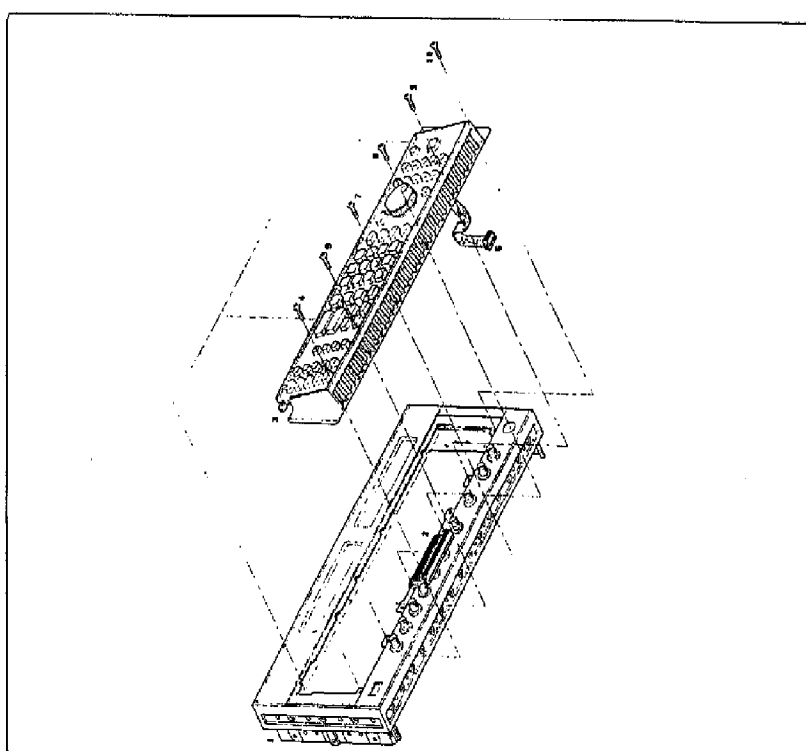

Figure 8-31. Front Panel Bezel Removal
- a. The front panel bezel can be removed using the following procedure in conjunction with Figure 8-31 Front Panel Bezel Removal.